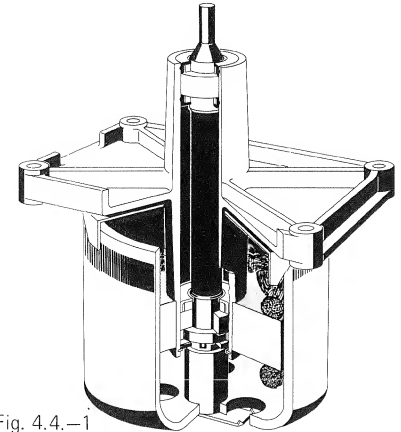

Fig. 4.4.-1
4.4. Capstan Motor (fig. 4.4.-1)
— Use special angled pliers to pull shaft lock A towards one side (fig. 4.4.-1). Proceed with caution, because the shaft lock is under high spring tension and will tend to fly off with force. Remove rotor by pulling it off the shaft.